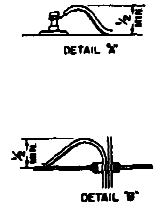
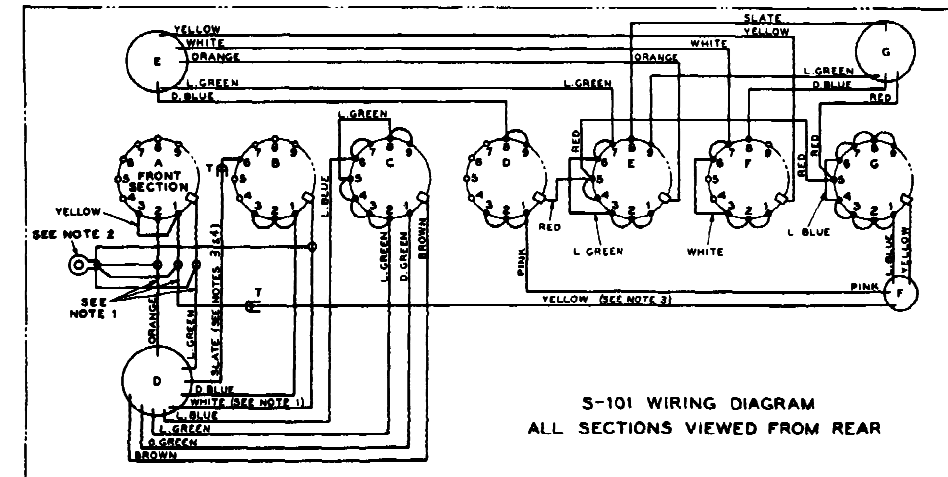

Figure 7-2. Signal Generator TS-419/U, Bottom of Chassis, Wiring Diagram (Contract No. NOa(s)-9748 and NOa(s)-12279)
Figure 7-3. Signal Generator TS-419/U, Top of Chassis, Wiring Diagram (Contract No. NOa(s)-9748, N383s-60879, N383s-61060 and NOa(s)-12279)
9. FOR COMPLETION OF OVERALL WIRING DIAGRAM SEE FIG. 7-3. CONTINUITY OF WIRING THROUGH BUSHINGS CAN BE FOLLOWED BY MATCHING REFERENCES SUCH AS (A), (B), ETC., ON FIGURES 7-2 AND 7-3.
10. SEE FIGURE 7-3 FOR TOP-OF-CHASSIS WIRING DIAGRAM.
- SEE FIGURES 7-2, 7-2B, 7-2C AND 7-2D FOR COMPARABLE WIRING USED IN EQUIPMENTS OF OTHER CONTRACTS.
11. SEE FIGURES 7-2, 7-3A, 7-3C AND 7-3D FOR COMPARABLE WIRING USED IN EQUIPMENTS OF OTHER CONTRACTS.
- CONTINUITY OF WIRING THROUGH BUSHINGS CAN BE FOLLOWED BY MATCHING REFERENCES SUCH AS (A) (B) ETC., ON FIGURES 7-2, 7-2B, AND 7-3.
- SEE FIGURES 7-2 AND 7-2B FOR UNDER-CHASSIS WIRING DIAGRAMS.
- SEE FIGURES 7-3, 7-3A, 7-3B, AND 7-3C FOR WIRING USED IN EQUIPMENTS OF OTHER CONTRACTS.
8. SEE FIGURES 7-2, 7-2B, 7-2C, 7-2D AND 7-3, 7-3B, 7-3C FOR COMPARABLE WIRING USED IN EQUIPMENTS OF OTHER CONTRACTS.